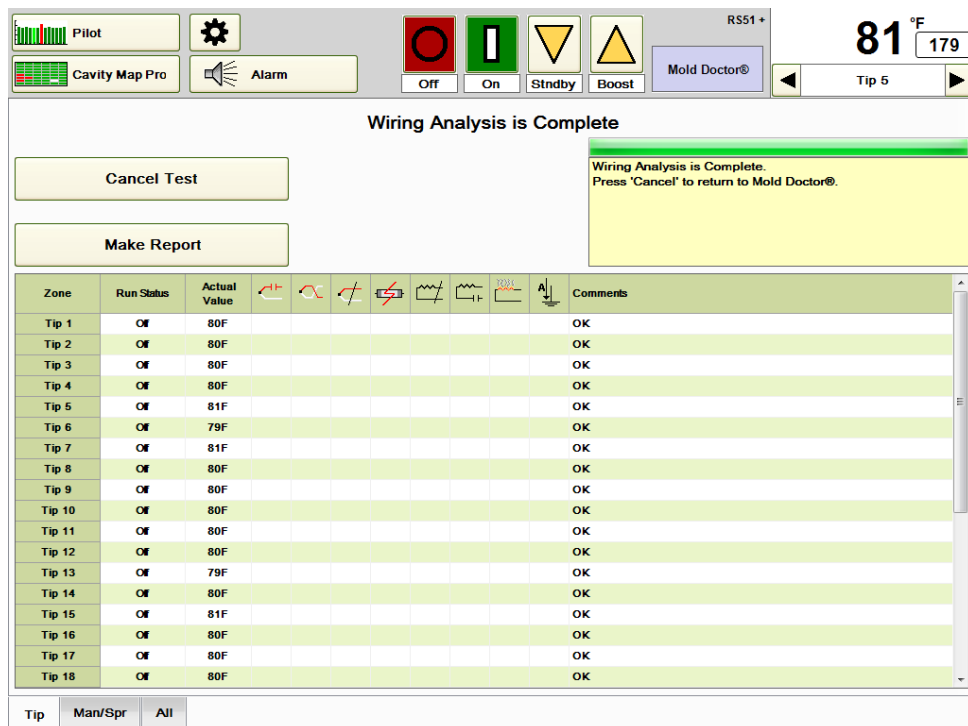

Figure 19d Wiring Analysis in Operation
- 3) The results of the test will appear on the screen as shown in Figure 19d. Progress information will appear in the yellow box on the right.
- 4) The report can be saved by touching the **Make Report** button shown in Figure 19d and choosing USB drive or the D:\G24\Reports directory.